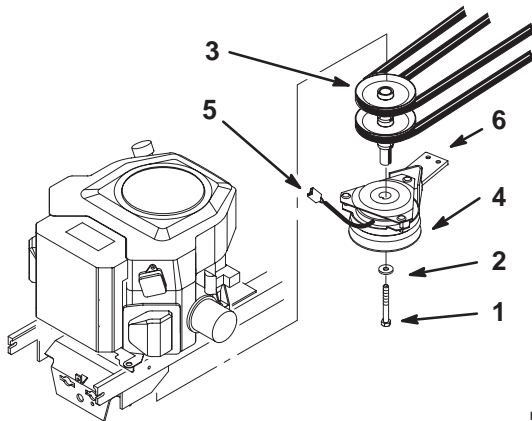

Figure 8
3. Unplug the clutch terminal and remove the electric clutch and the engine pulley (Fig. 8). Save the washer and discard the bolt.
8. Install the electric clutch and new engine pulley. Use existing washer and new bolt (7/16 x 5-1/2 in.) (Fig. 8).
9. Plug in the clutch terminal (Fig. 8).